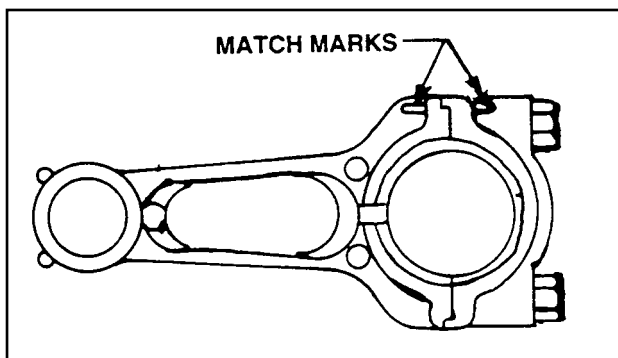

Figure 10. Match Marks on Rod and Cap
5. Guide the large end of the connecting rod onto the crankshaft. Install the connecting rod cap. The match mark on the cap must be aligned with an identical mark on the rod (Figure 10).